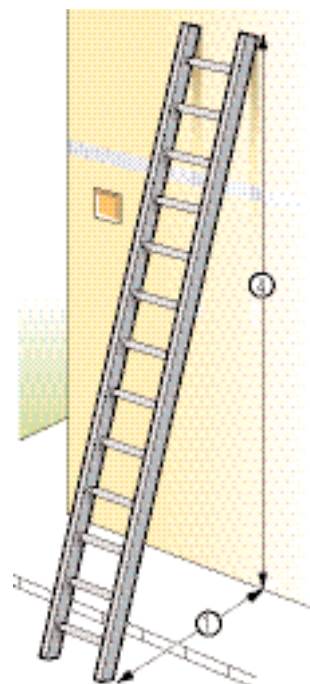

Figure 10 Ladder showing correct 1 in 4 angle (means of securing omitted for clarity)
- where **ladders** can be put up at the correct angle of 75°. To judge the angle use the angle indicator marked on the stiles of some ladders or the 1 in 4 rule (1 unit out for every 4 units up, as shown in Figure 10);